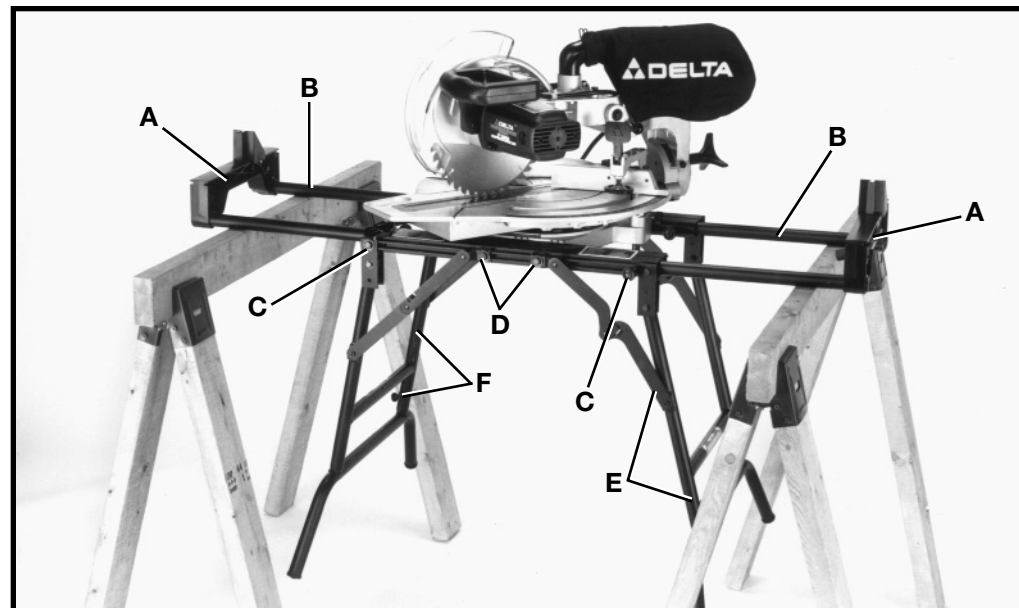

Fig. 61
1. Pull out extension tables (A) Fig. 61, and lock in place.
2. Position extension arms (B) on two saw horses, as shown, or other suitable supports, making sure legs of stand are above floor surface.
3. Loosen two screws (C) Fig. 61, and remove screws (D) Fig. 61, as shown. Repeat these instructions for the rear of the stand.
4. Slide leg assembly (E) Fig. 61, off the saw base to the right and leg assembly (F) off the saw base to the left.